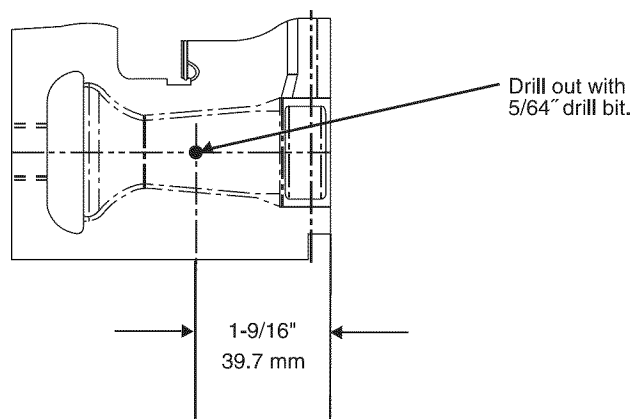

Fig. 23 - Mixer Screw Location
1. Locate the dimple on each burner venturi tube. If you cannot locate the dimple, refer to Fig. 23 for location of the mixer screw.